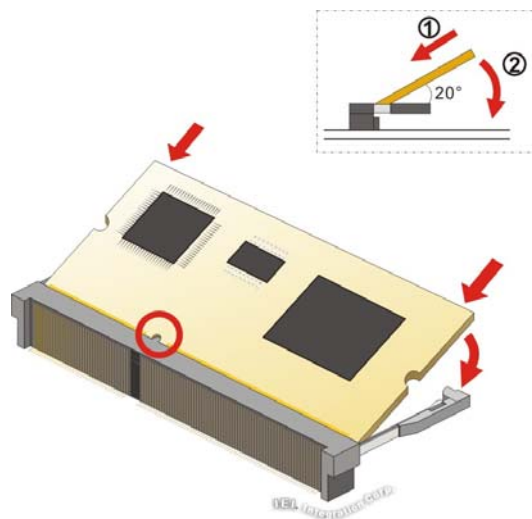

Figure 4-12: iRIS Module Installation
To install the iRIS-2400 module, please follow the steps below and refer to **Figure 4-12**.
- Step 3:** Insert the iRIS-2400 module. Push the module in at a 20° angle (**Figure 4-12**).
Step 4: **Seat the iRIS-2400 module.** Gently push downwards and the arms clip into place (**Figure 4-12**).